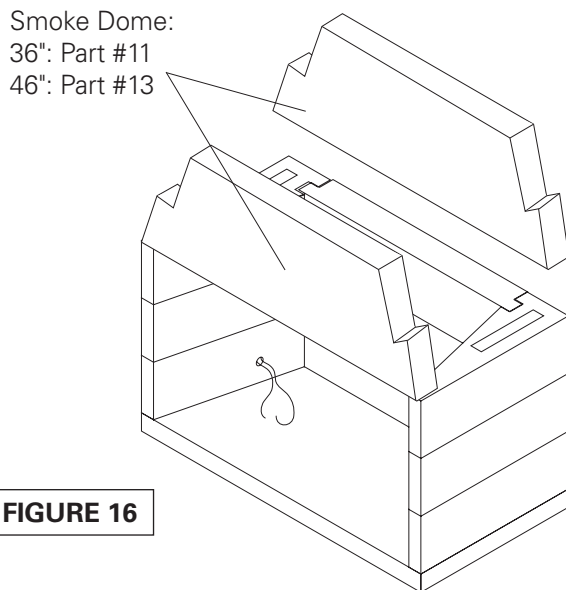

FIGURE 16
5. Begin the smoke dome assembly by setting the rear bottom smoke dome component on top of the firebox back wall assembly in a bed of Earthcore Adhesive. The smoke dome component should sit flush with the back side of the firebox assembly. **(Figure 16)**